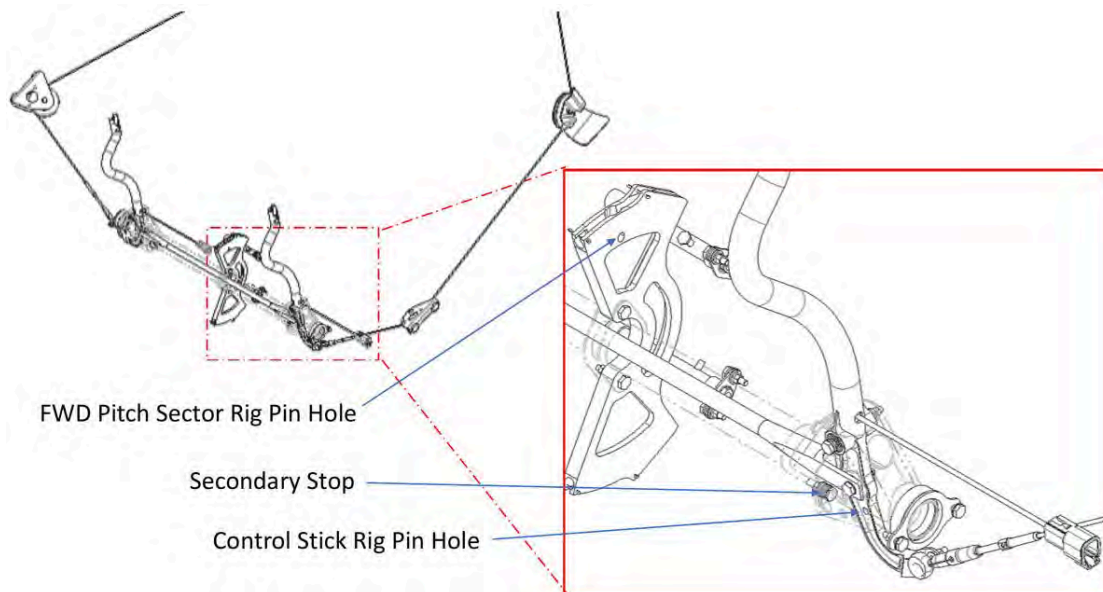

FIGURE 10-13
- b. Verify that contact is made with the secondary roll stops (located at the base of the control sticks as shown in Figure 10-13) at the specified force. If not within specified force adjust the length of the secondary stop bolts using NAS1149C0363R washers. If a finer adjustment is necessary it is permissible to use NSAS1149C0332R or NAS1149C0316R washers. A minimum of three and maximum of seven NAS1149C0363R washers are allowed. Verify proper thread protrusion of the bolt and nut of the secondary stop once complete.